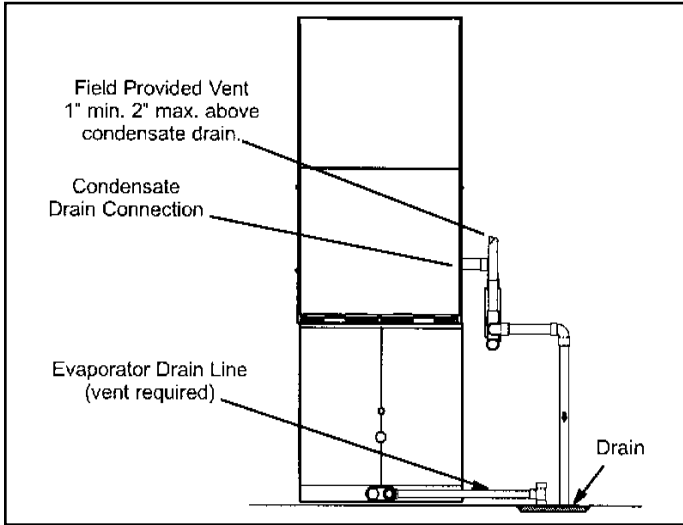
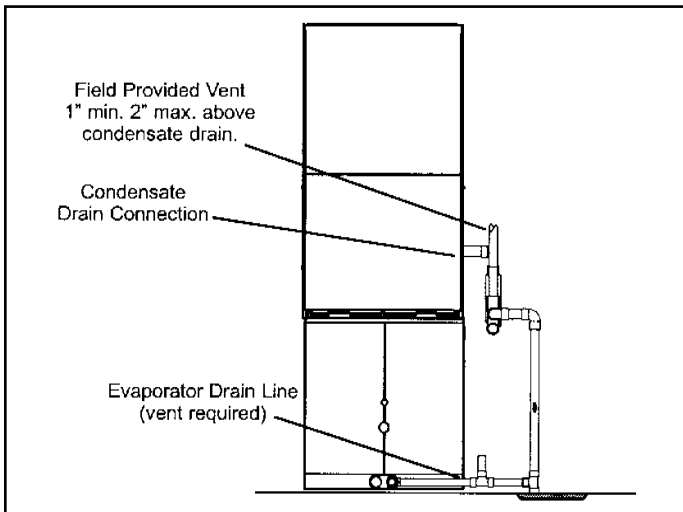

Figure 42. Evaporator Coil Using a Separate Drain
Figure 43. Evaporator Coil Using a Common Drain
5. Figure 42 shows the furnace and evaporator coil using a separate drain. If necessary, the condensate line from the furnace and evaporator coil can drain together. See Figure 43. The field provided vent must be a minimum 1" to a maximum 2" length above the condensate drain outlet connection.